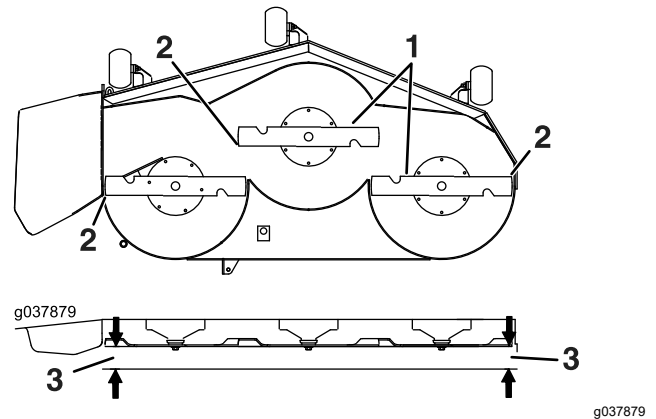

Figure 73
6. Measure between the blade tip and the flat surface (Figure 73). If both measurements are not within 5 mm (3/16 inch), adjust the leveling; continue with this procedure.
12. Carefully rotate the blades side to side (Figure 73).